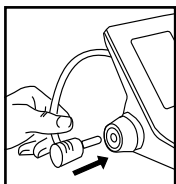

Fig. 4
1. Insert the connector to the hose port of the device (Fig. 4).